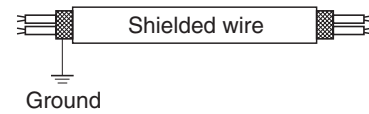

Fig. 8-5
- In case of using shielded wires for inter-unit control wiring, ground the shield on one side. (Fig. 8-5)